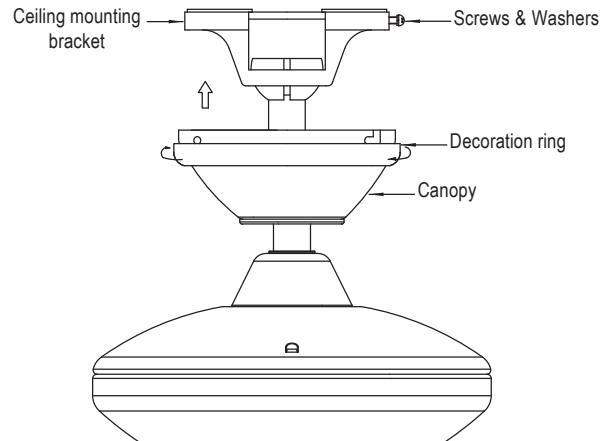

Fig. 13
**Step 2.** Slide the canopy up to ceiling and attach the canopy to the ceiling mounting bracket using 4 screws at the top edge of the mounting bracket. Insert each screw through the canopy mounting hole and into the mounting bracket. Tighten all screws securely. (Fig. 13)